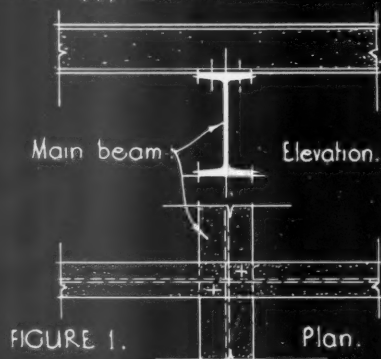
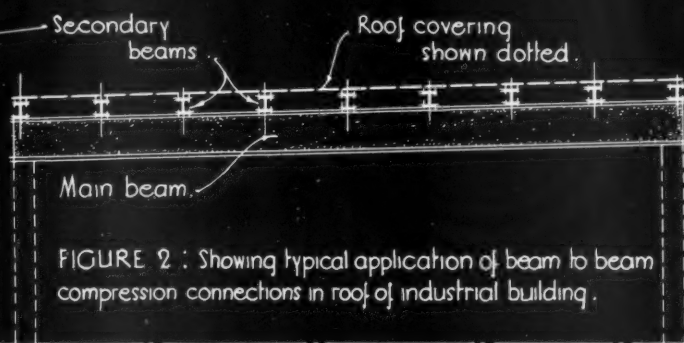

FIGURE 1.
FIGURE 2 : Showing typical application of beam to beam compression connections in roof of industrial building.
(1) By direct compression. The cheapest way of transferring loads is by resting one beam on top of another (Fig. 1). This method, however, requires considerable constructional depth, and considerations of headroom and space generally limit it to industrial buildings and roofs (Fig. 2). This construction is the most economical, but has the disadvantage of providing but limited stiffness.